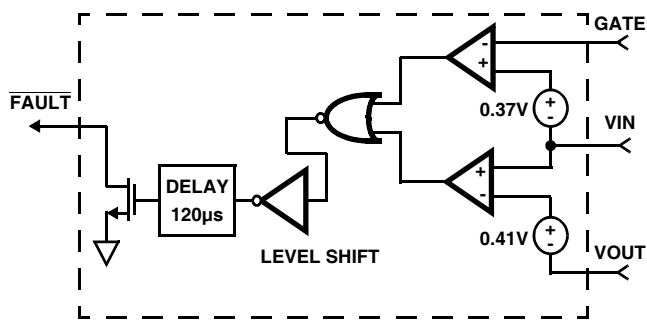

FIGURE 3. FAULT DETECTION BLOCK
There is a High Speed (HS) Comparator used for fast turn-off of the ORing MOSFET to protect the common bus against hard short faults at a sourcing power supply output (refer to Figure 3).